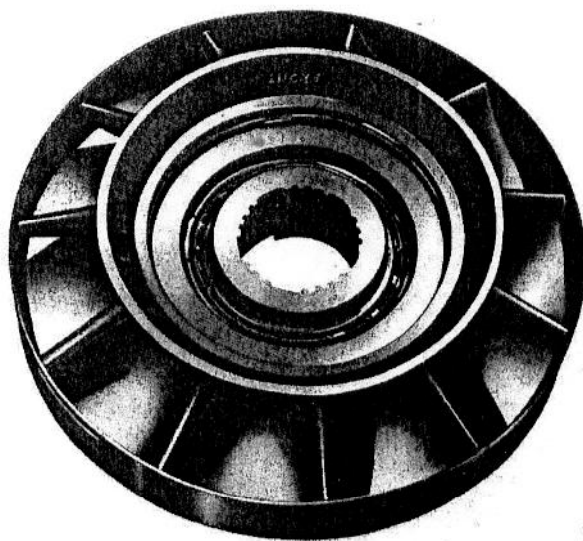

FIG. 11
6. (Fig. 11) Insert the inner race into the outer race with the splined end uppermost.